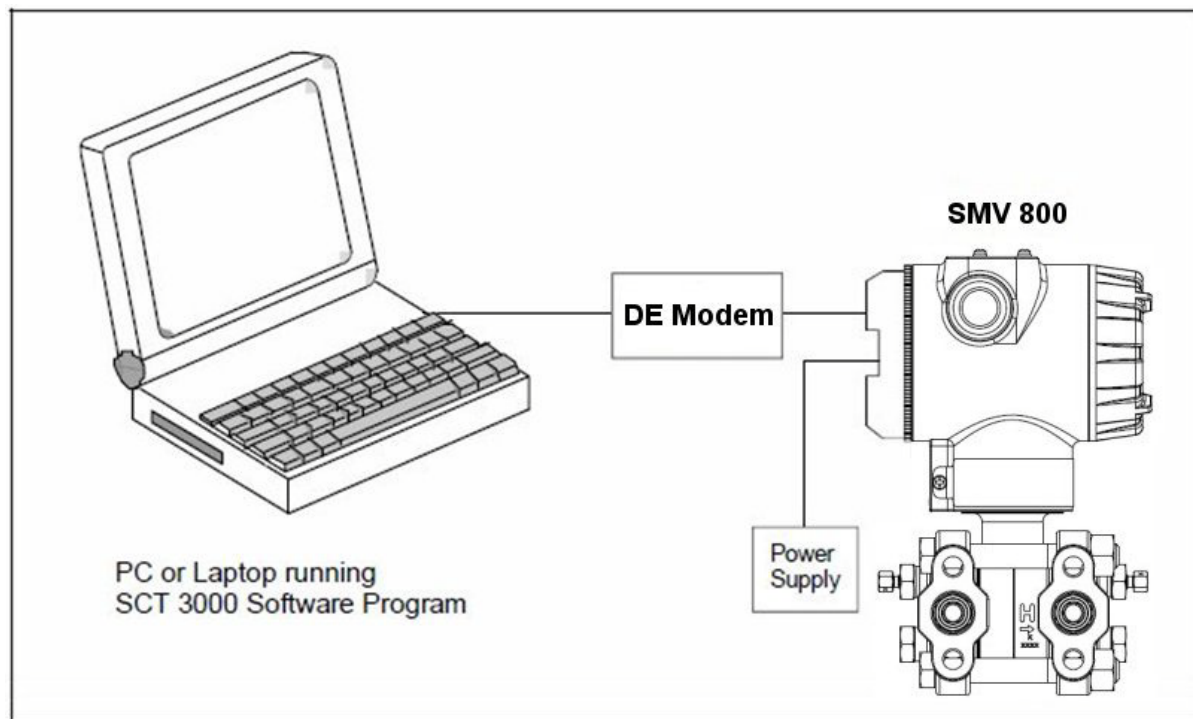

Figure 8 - Smartline Configuration Tool
Honeywell's SCT 3000 Smartline Configuration Toolkit is a cost-effective means to configure, calibrate, diagnose, and monitor the SMV 800 and other smart field devices. The SCT 3000 runs on a variety of Personal Computer (PC) platforms using Windows XP® and Window 7®. It is a bundled Microsoft Windows software and PC-interface hardware solution that allows quick, error-free configuration of SMV transmitters. Figure 8 shows the major components of the SCT 3000.